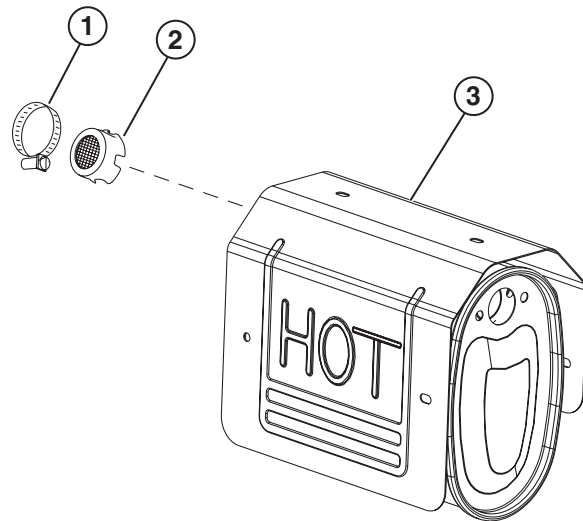

Figure 41 – Spark Arrester Assembly
3. Using a flathead screwdriver, loosen the spark arrester band clamp (see Figure 41).